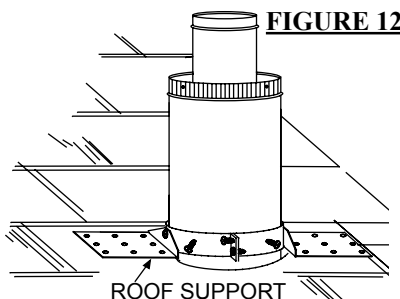

FIGURE 12
1. Fasten the roof support to the roof using the screws provided. The roof support is optional. In this case the venting is to be adequately supported using either an alternate method suitable to the authority having jurisdiction or the optional roof support. Figure 12.
4. Thread the air terminal connector / vent pipe assembly down through the roof. The air terminal must be located vertically and plumb. Attach the air terminal connector to the roof support, ensuring that the top of the air terminal is 16" above the highest point that it penetrates the roof. Figure 12. **DO NOT CLAMP THE FLEX VENT PIPE.**